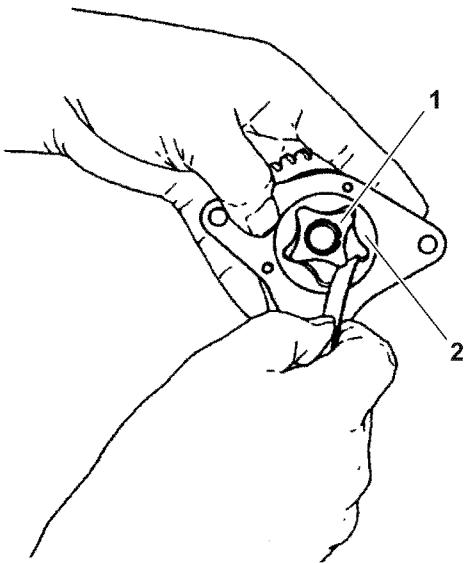

Figure 9-7
Inspect the tip clearance between the outer and inner rotors. To inspect this, insert a feeler gauge between the inner rotor tooth tip (Figure 9-7, (1)) and the outer rotor tooth tip (Figure 9-7, (2)), and measure the clearance.